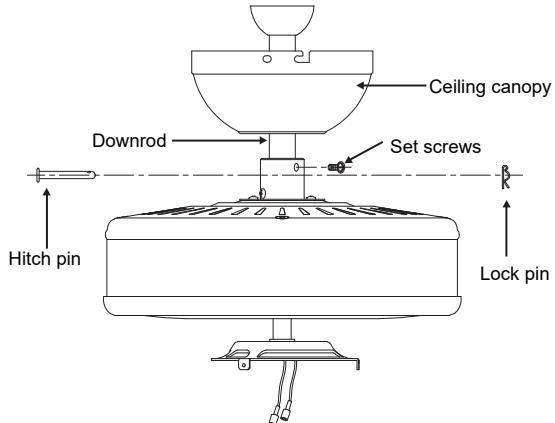

Fig. 6
**Step 4.** Route wires exiting from the top of the fan motor through the canopy and then through the ball/downrod (**Fig. 6**)
**Step 5.** Align the holes at the bottom of the downrod with the holes in the collar on top of the motor housing (**Fig. 6**). Carefully insert the hitch pin through the holes in the collar and downrod. Be careful not to jam the pin against the wiring inside the downrod. Insert the locking pin through the hole near the end of the hitch pin until it snaps into its locked position, as noted in the circle inset of **Fig. 6**.
**Step 6.** Tighten two set screws on top of the fan motor firmly (**Fig. 6**).